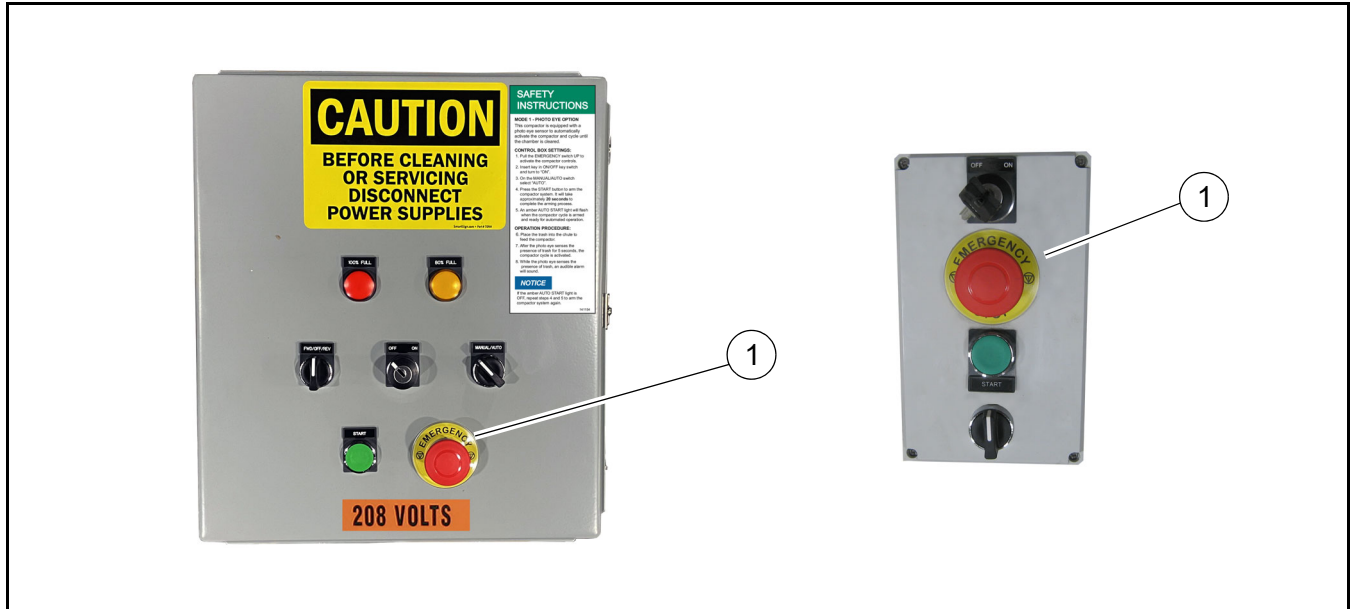

Figure 2
- Depress one of the E-STOP buttons (**Figure 2, 1**) to turn the Power Pack controls Off.